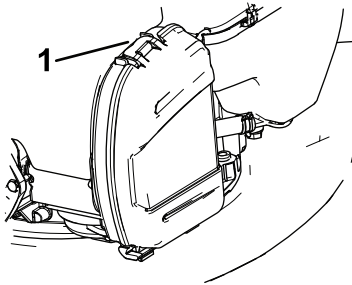

Figure 16
1. Lift the tab to open the air-filter cover (Figure 16).